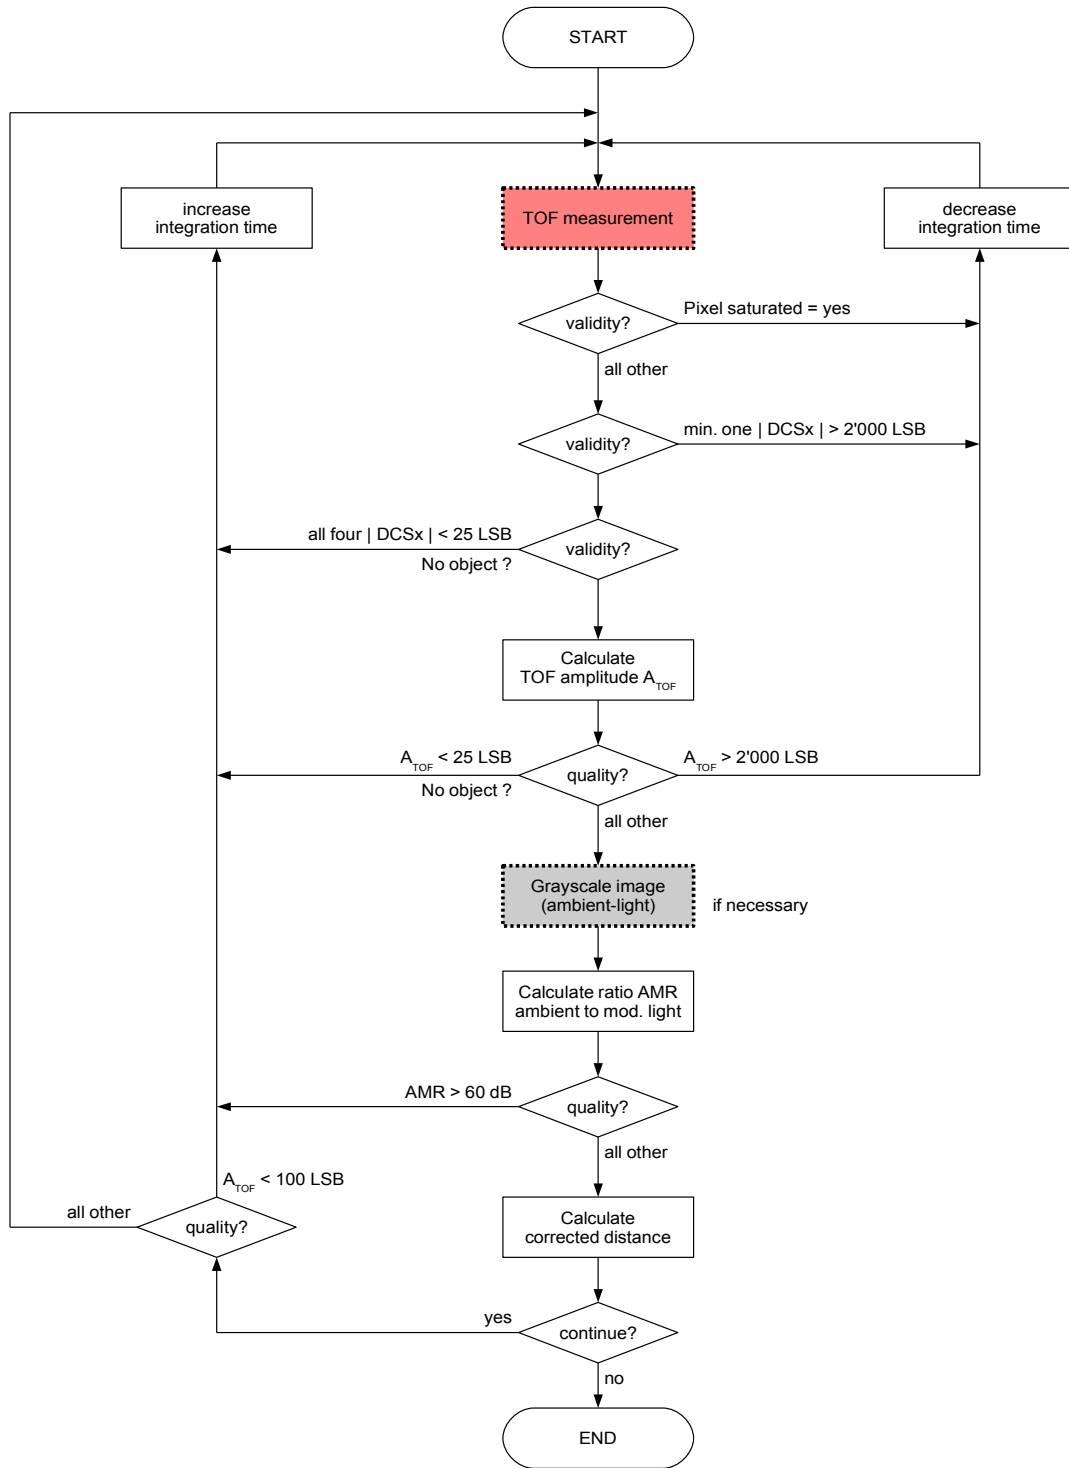

Figure 53: Generic validity and quality flow chart for a single pixel
Table 75: Validity (V) and quality (Q) decision matrix (see also Figure 53)